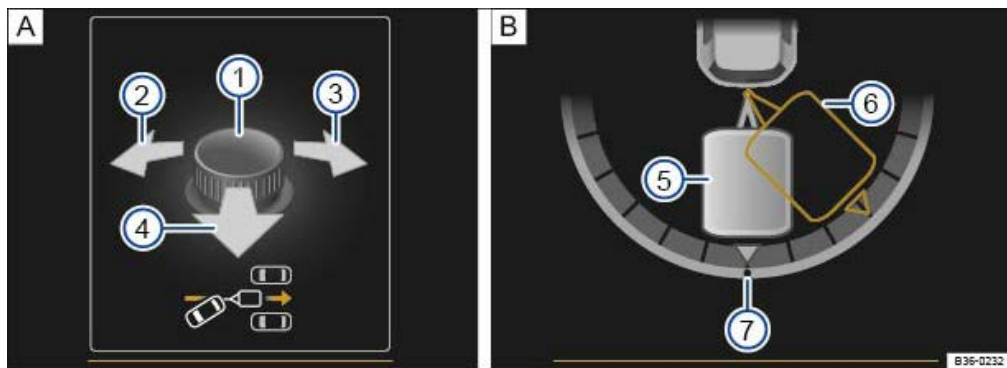

Fig. 194 Operating Trailer Assist on the instrument cluster display: setting the angle; reversing.
Key to → *Fig. 194*:
- The trailer manoeuvring system steers the trailer automatically in the set direction → *Fig. 194*. The driver operates the pedals.
- Tilt the rotary knob in the desired direction until the desired direction is reached → *Fig. 194* .
- Tilt the rotary knob for the exterior mirrors in direction → Fig. 194 ④
- The target position of the trailer → Fig. 194 ⑥ swivels to the zero position on the angle display → Fig. 194 ⑦ .